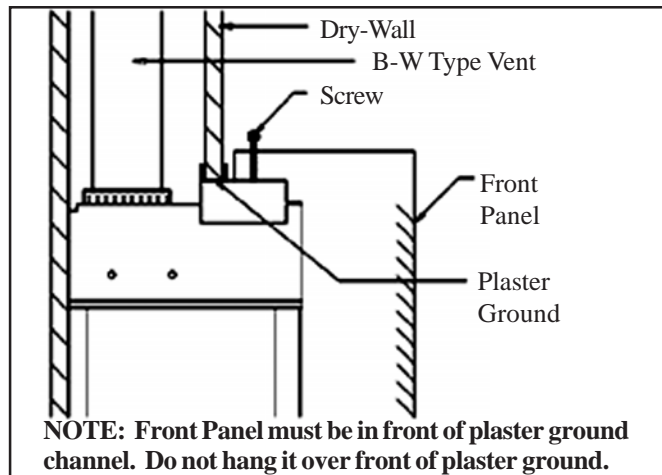

FIGURE 5A - DRY WALL
**STEP 10.** To fasten front panel to furnace, be sure exposed portion of header is free of debris. Place outer panel over furnace with top of panel about one inch above header and centered in opening. Keep front panel flush to finished wall and slide down until rear flange of top outer panel is wedged tight against the front of the plaster ground channel and flush with wall. **CAUTION: Do not hang front panel behind (over front lip) the plaster ground channel as this could result in excessive noise.** Open bottom door of front panel and place sheet metal screw into locking latch. Secure top of front panel to header plate with screw provided. This will hold front panel securely to wall. See Figures 5A, 5B, (See Page 8), and 5C (Page 9).